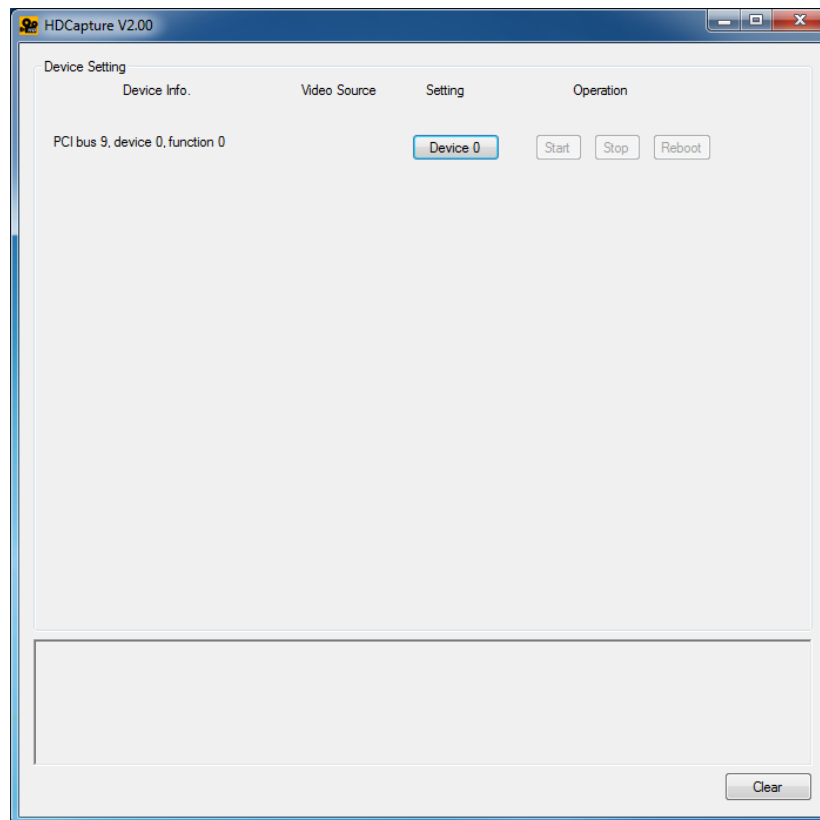

Figure 2-1: HDCapture SDK
Step 1: Launch the HDCapture SDK. The Device Setting button (Device 0) is on the right side panel of the HDCapture SDK (**Figure 2-1**). The best resolution to view HDCapture SDK is 1280x1024 or above.